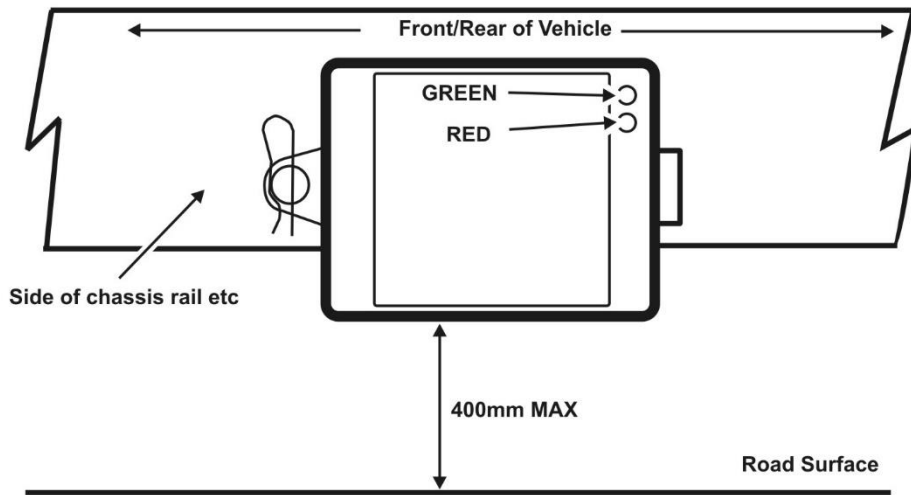

Figure 2. Vertical Mount
3. Refer to the Figures 2, 3 and 4 for the mounting options.